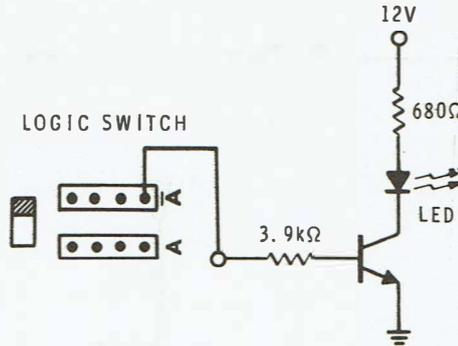

Figure E2-2
- Construct the circuit shown in Figure E2-2. Note that logic switch \bar{A} on the ET-1000 Trainer is used to provide the input voltage to the LED driver.